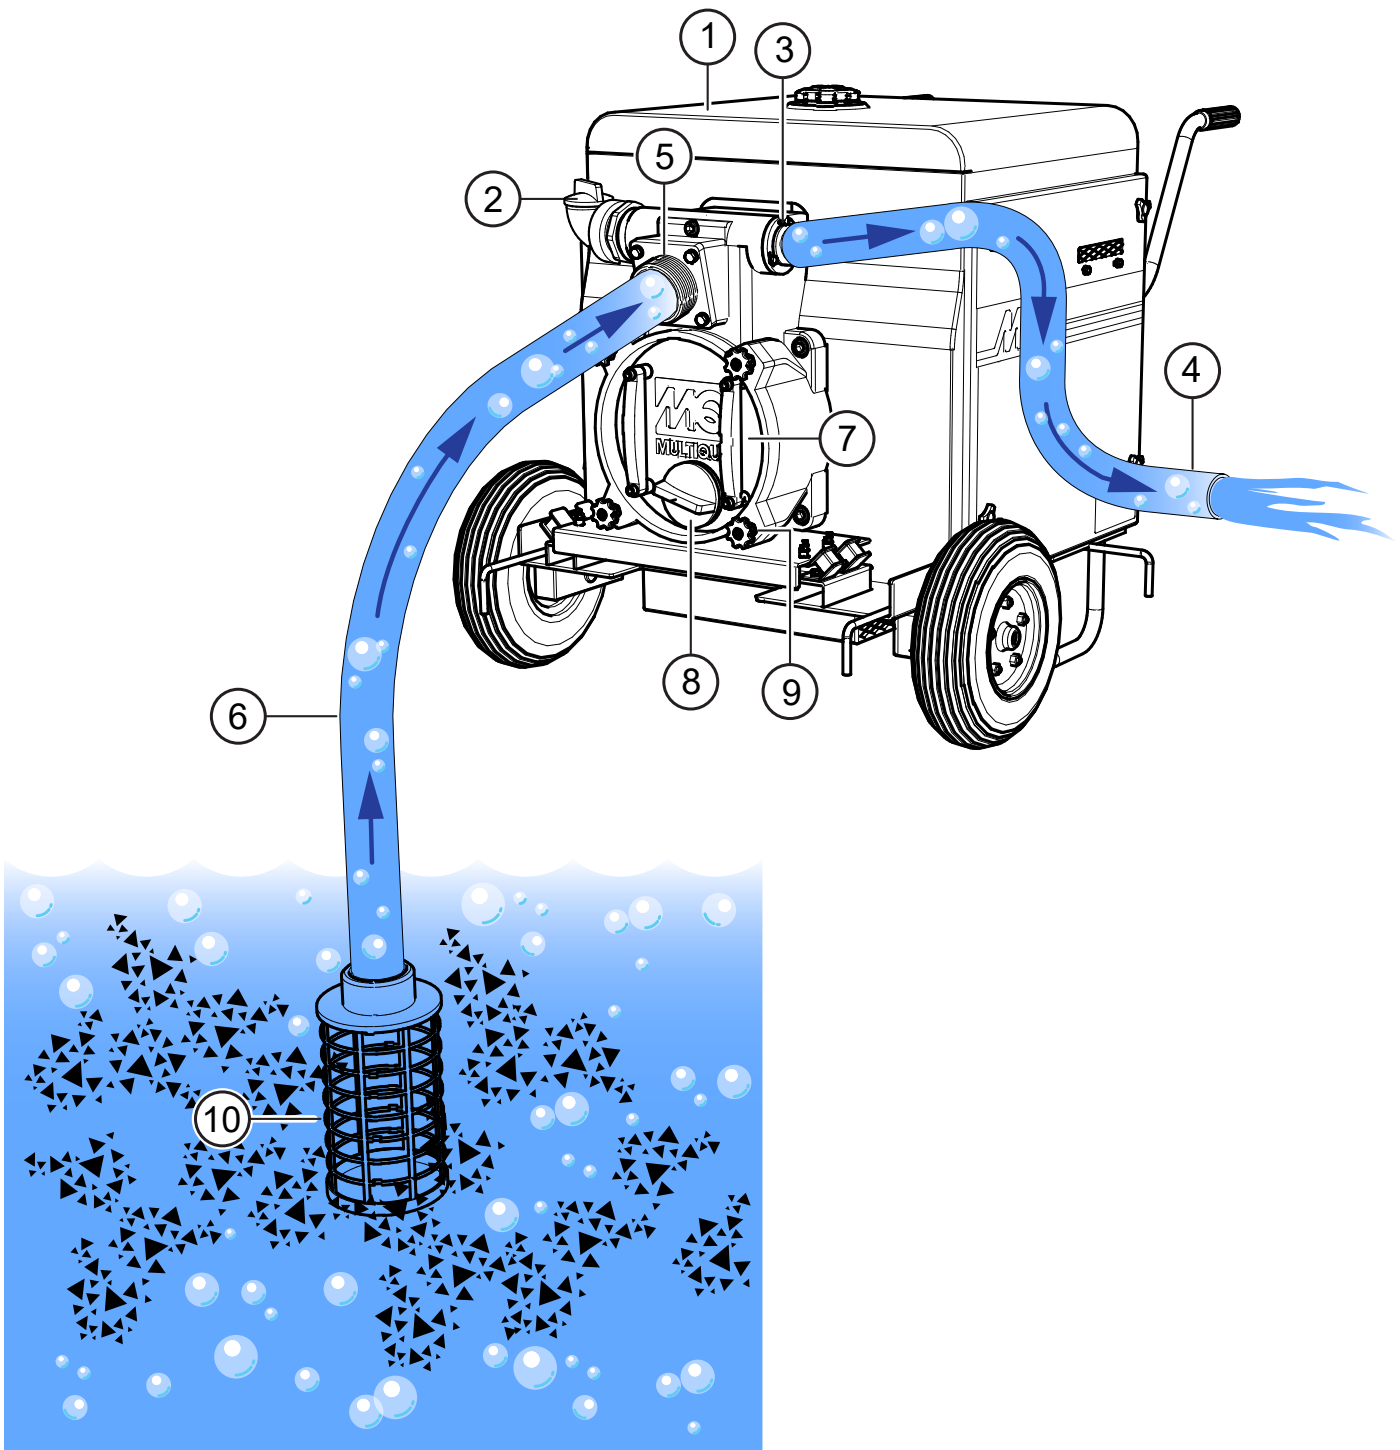

Figure 3. QP3TS Key Components
Figure 3 shows key components of the QPT3S Pump.
3. Initially prime the pump by removing the fill cap (see Figure 3) and filling the casing with water. If the pump casing is not filled with water prior to operations, it will not be able to start the pumping process and you risk overheating the mechanical seal assembly.